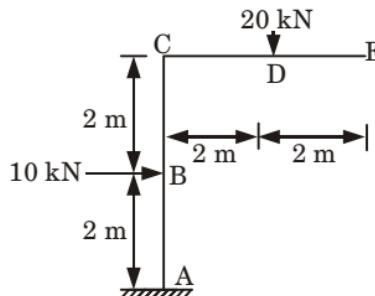

Fig. 3.11.1.
**Que 3.11.** Determine the horizontal and vertical deflection at point E of the frame shown in Fig. 3.11.1. Take EI as constant.